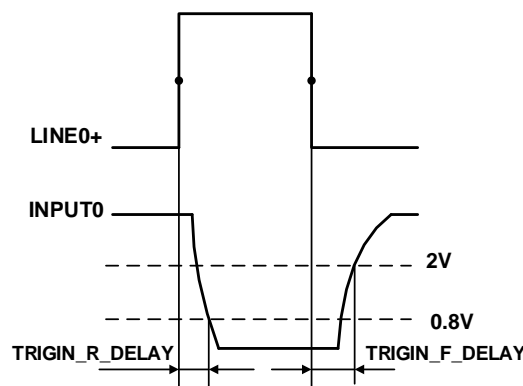

Figure 7-4 Parameter of opto-isolated input circuit
- Rising edge delay: <math><50\mu\text{s}</math> (0°C~45°C), parameter description as shown in Figure 7-4
- Falling edge delay: $<50\mu\text{s}$ ($0^\circ\text{C}\sim 45^\circ\text{C}$), parameter description as shown in Figure 7-4
- Input rising time delay: <math><2\mu\text{s}</math> (0°C~45°C), parameter description as shown in Figure 7-4
- Input falling time delay: <math><2\mu\text{s}</math> (0°C~45°C), parameter description as shown in Figure 7-4